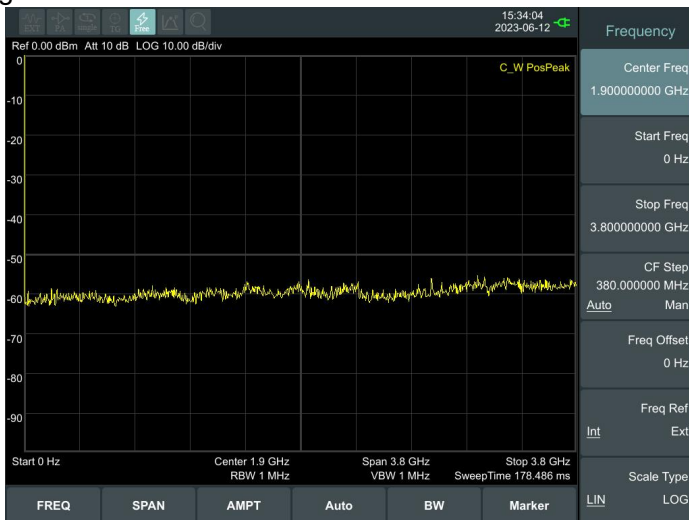

Figure 3-10 Full Span
- 1) Press **【Preset】** on the front panel to restore the analyzer to its factory-defined state. The Spectrum analyzer will display the spectrum from 9kHz to the maximum span width. The signal generated will display as a vertical line at 100MHz. Refer to Figure 3-10.